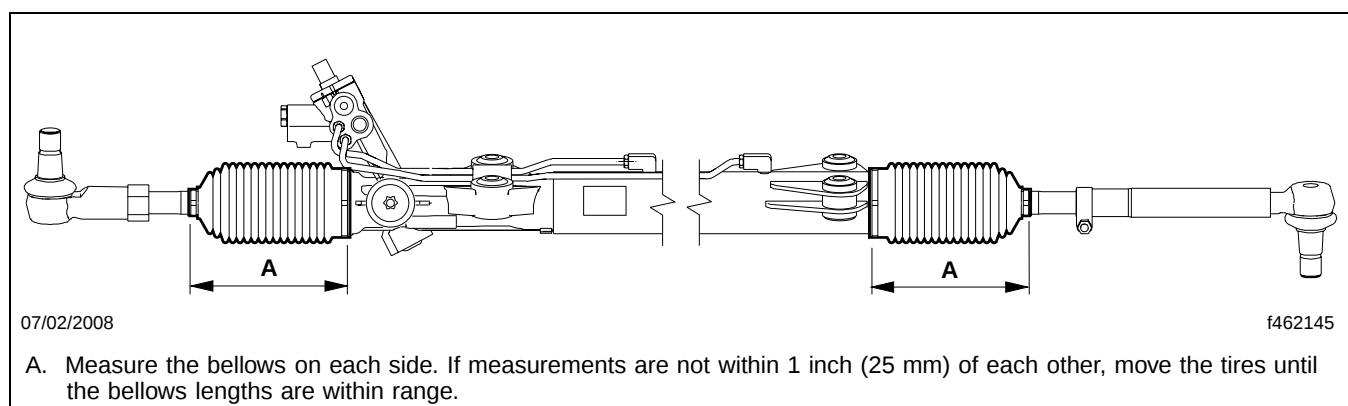

Fig. 10, Measuring the Tie Rod Bellows
35.1 Measure the length of the bellows from clamp to clamp on each side of the gear. See **Fig. 10**. If measurements are not within 1 inch (25 mm) of each other, move the tires until the bellows lengths are within range.